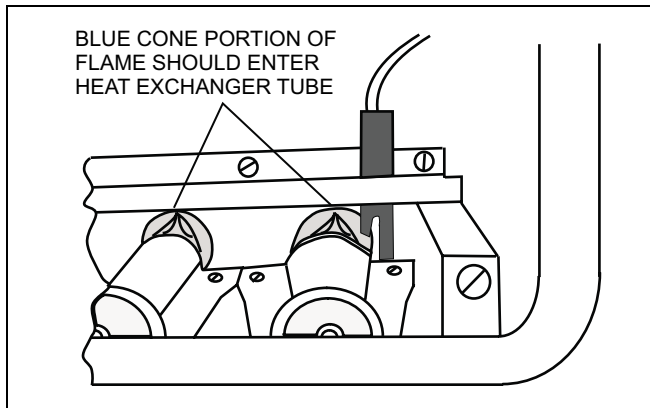

FIGURE 2: Proper Burner Flame Appearance
13. During unit operation, the main burner appearance and igniter location should be as shown in Figure 2.